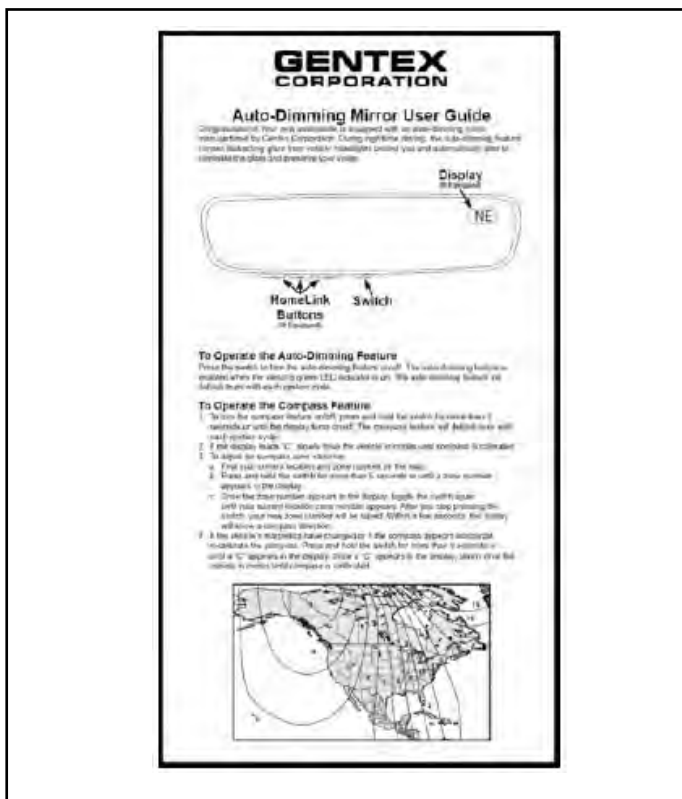

Figure 27
27. Place owner's cards in the glove box. See figure 27.